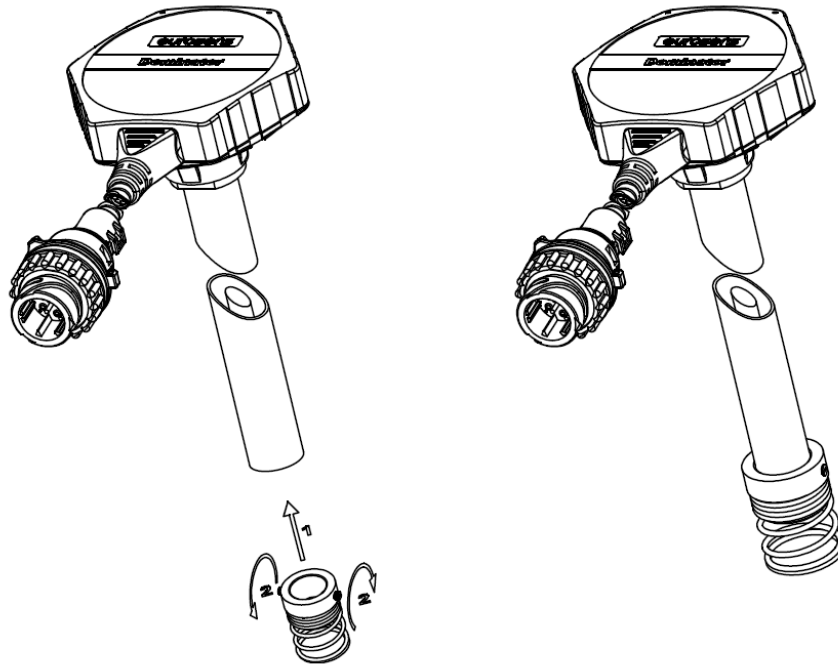

fig. 4.7. Bottom stop installation
2. Install the bottom stop spring (fig. 4.7).